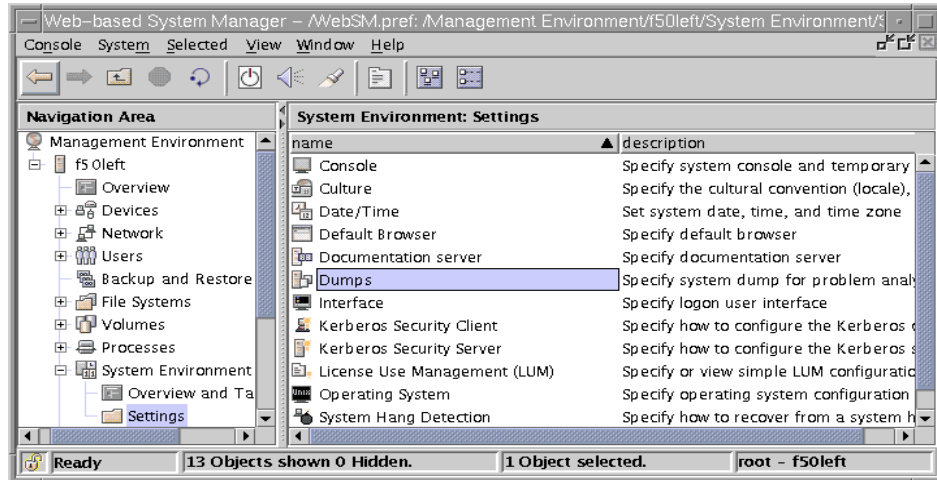

Figure 4-2 System Environment Settings panel
2. Double-click the System Environment icon in the right frame and then double-click the Settings icon. Then select the Dumps icon in the panel shown in Figure 4-2 on page 73.